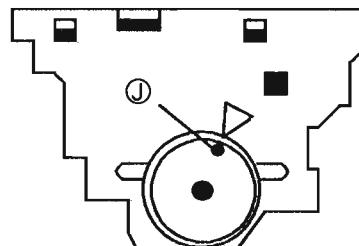

Fig 24
When assembling the cam switch, install it so that the part ① meets the part ② (Fig 24).